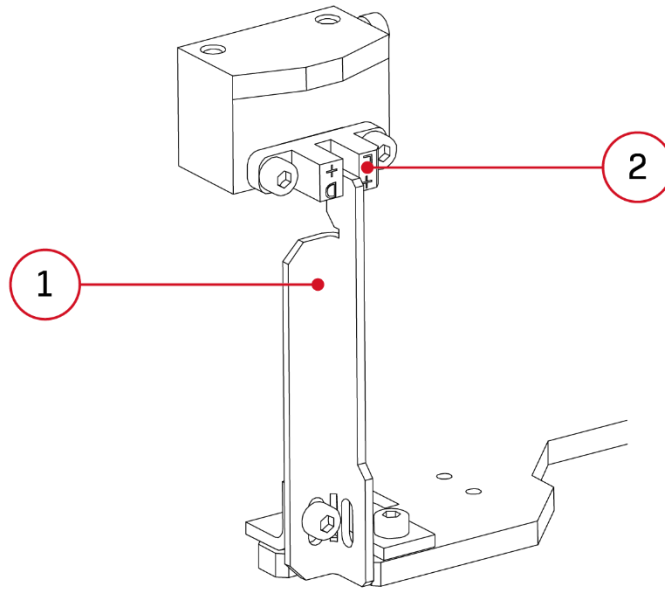

Fig. 6 1. Z axis breaker | 2. Z axis endstop - in its correct home position
- confirm that the Z axis breaker (fig. 6) is not damaged, broken or bent and that it coincides with the Z axis endstop (is aligned with the endstop notch);